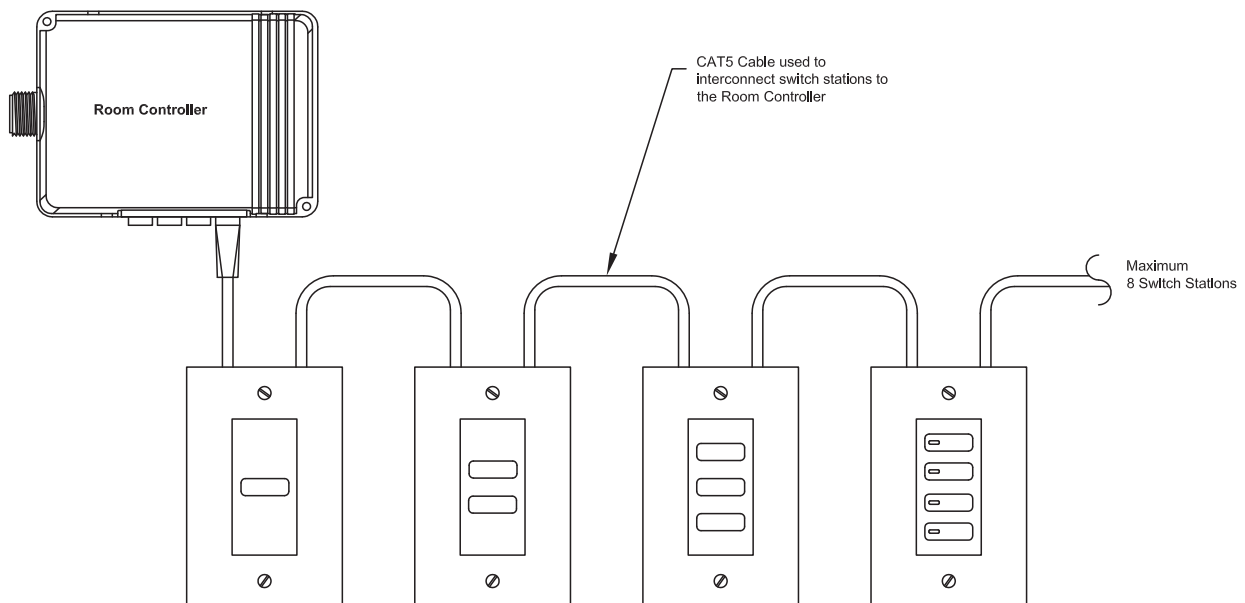

Figure 3: NX Switches connected to Room Controller *SmartPORT*
2. Plug the CAT5 cable into any available SmartPORT™ on the NX Room Controller (See Figure 3). Verify solid snap-in connection.